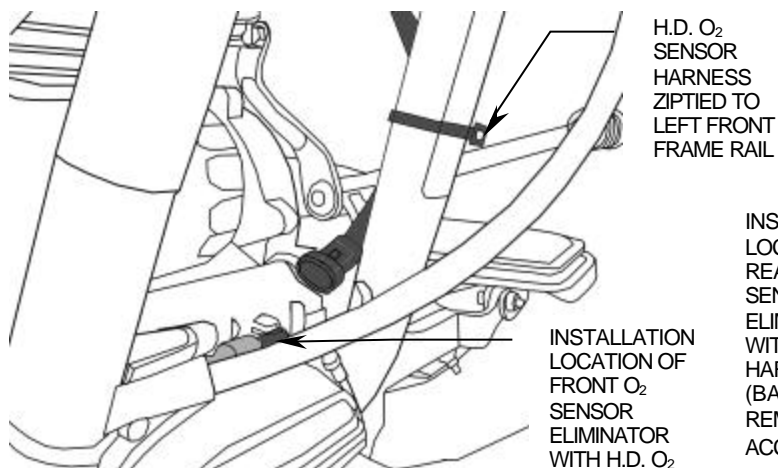

FIGURE 5
6. At the front of the bike, remove the 2 allen head bolts that hold the voltage regulator mounting bracket to the block, and remove the rectangular cover over the top of this bracket. Ease the voltage regulator bracket forward just enough to access the front oxygen sensor connection, (this may have already been done if the exhaust is being changed). Plug one of the supplied O₂ eliminators into the connector on the harness then position it back into its original position, see Figure 5. Reinstall the voltage regulator and top cover. Zip tie the O₂ sensor wire to the frame rail if leaving it in place.